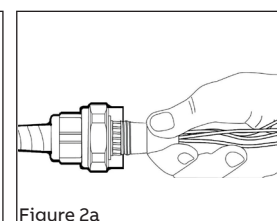

Figure 2a
- Screw the sealing chamber back on the body subassembly until it completely seats on the body (Figure 2a).